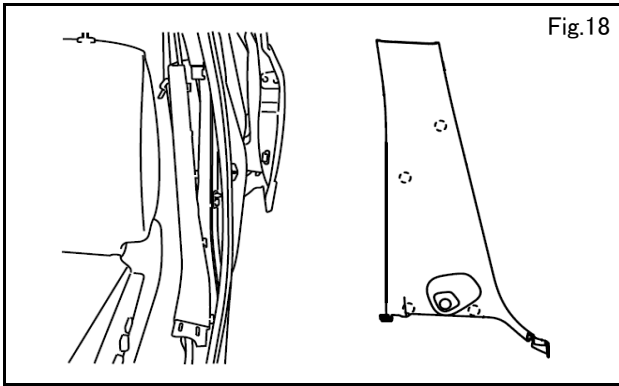

Fig.18
- 11) Fasten T-Harness to vehicle harness at positions shown in fig.18 using Tie Wraps (3 places).
- 12) Partially remove center pillar lower garnish, as shown in fig.18.